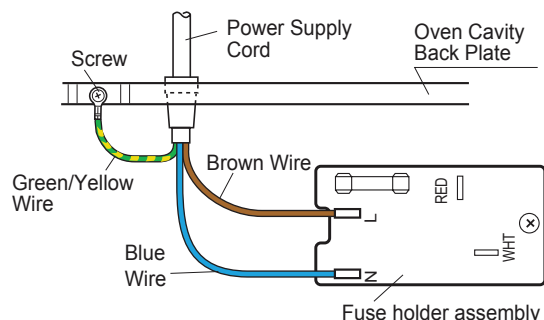

Figure C-3(a) Power Supply Cord Replacement
4. Release the moulding cord stopper of the power supply cord from the square hole of the oven cavity back plate, referring to the Figure C-3 (b).